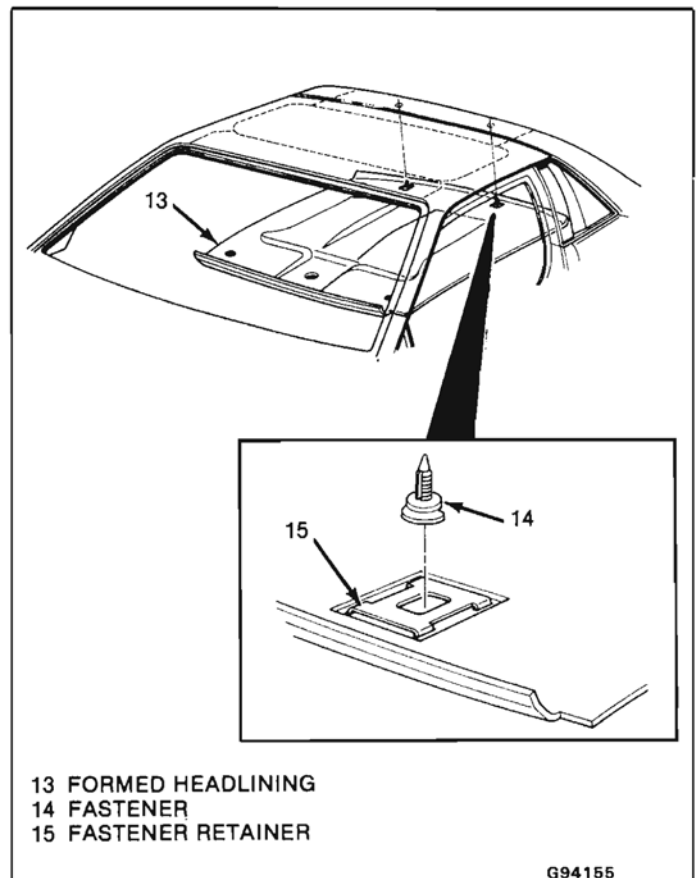

Fig. 5-Installing Formed Headlining
**Remove or Disconnect (Figure 5)**
8. Headlining assembly (13) – pull down on headlining carefully to release fasteners.
9. Two headlining fasteners (14) from fastener retainers (15)
**Install or Connect (Figure 5)**
1. Two fasteners (14) into fastener retainers (15)
3. Headlining (13) to roof and secure fasteners